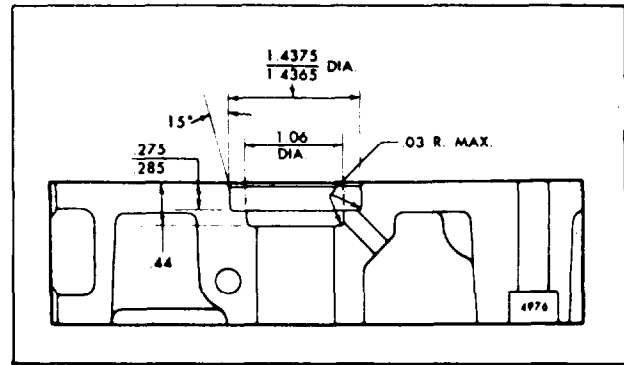

Fig. 4 - End Plate Oil Drain Back Counterbore
10. Remove the finish cutting tool and install an end mill to machine the additional 1.06" diameter counterbore. The total depth of the combined counter bores is .44" (Fig. 4). The additional counterbore provides proper oil drain back from the oil sea' area.